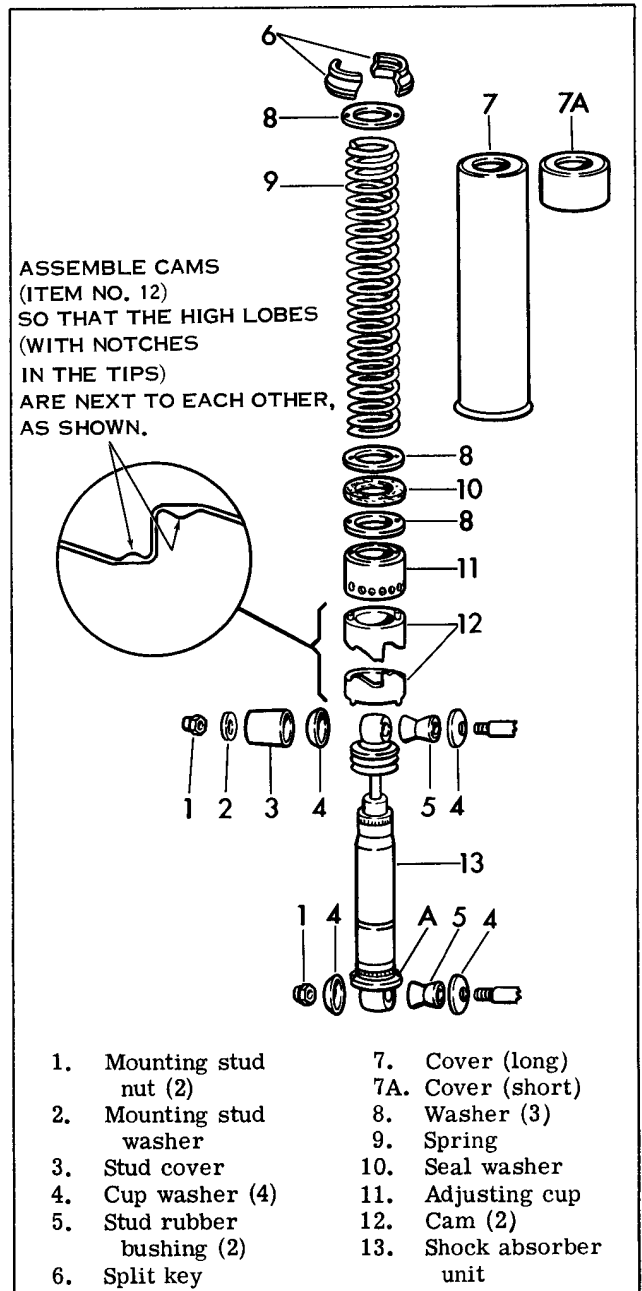
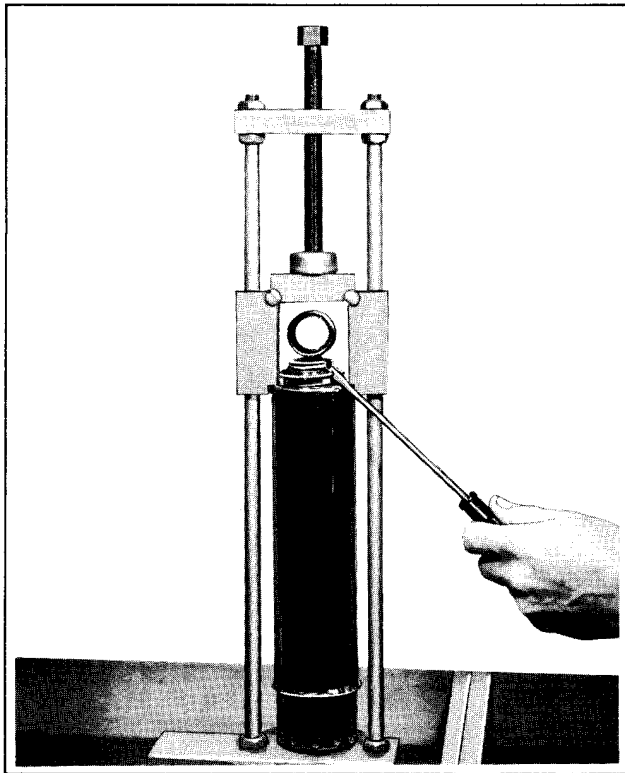

Figure 2-35. Later Rear Shock Absorber - Exploded View
Figure 2-36. Disassembling Shock Absorber
### DISASSEMBLING REAR SHOCK ABSORBER (Figure 2-35)
Remove top and bottom mounting stud nut (1), mounting stud washer (2), upper stud cover (3) and cup washer (4). Slip shock absorber assembly off upper and lower studs. Push rubber bushings (5) from shock absorber mounting eyes. Place shock absorber in Rear Shock Absorber Tool, Part No. 97010-52A (see Figure 2-82) with split key (6) up. Compress absorber spring enough to remove each half of split key (6) from flange on shock eye as shown in Figure 2-36. Release spring compression and remove absorber assembly from tool. Remaining items can be removed in order shown in Figure 2-35.
Apply a thin coat of grease to all surfaces of both cams. Note that cams (12) are identical and be sure to position cam lobes correctly as shown in Figure 2-35 inset. Place assembly in compressor tool and compress spring enough to install key halves (6). Release spring compression. Keys will lock into place in inside diameter of covers 7 or 7A.
**IMPORTANT:** Install each shock absorber on motorcycle with slot in cam support (A, Figure 2-35) facing toward wheel.